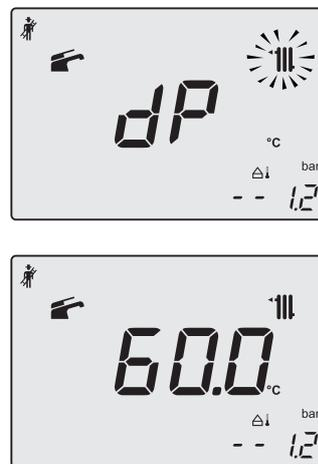

Figure 11.9
- 20 Press further key G to vary again the output in chimney sweep mode: when the display shows the letters **dP** that alternate with the heating water temperature value (e.g.60), the "chimney sweep function" is at maximum output in domestic hot water mode" (Figure 11.9);